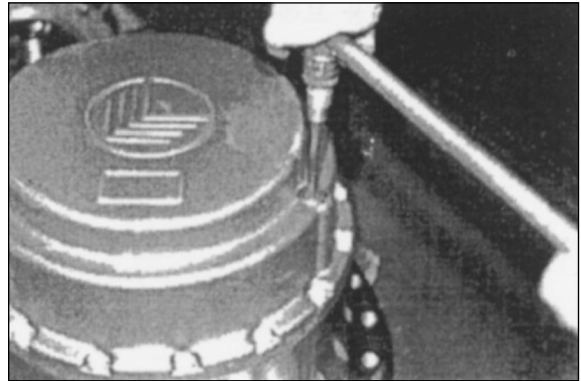

Figure 76
14. Turn reduction gear assembly over and remove 2 plugs (M22 x 1.5). Figure 76.